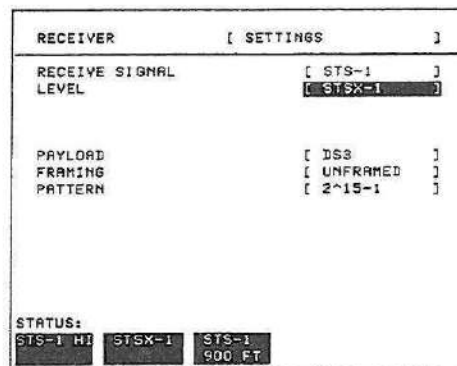

**Figure 2-7. Pointer Processor Stress**
1. Connect the HP 37704A to the network equipment, as shown in Figure 2-7, and set up the **TRANSMIT** **SETTINGS CONTROL** display as shown below.